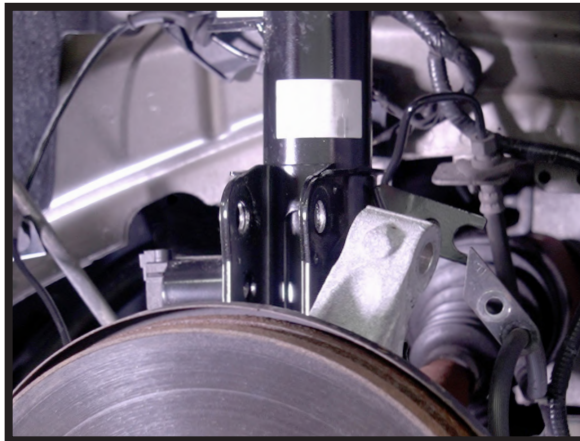

FIGURE 14
8. SEPARATE THE BOTTOM SHOCK MOUNT FROM THE WHEEL CARRIER. (FIGURE 14)